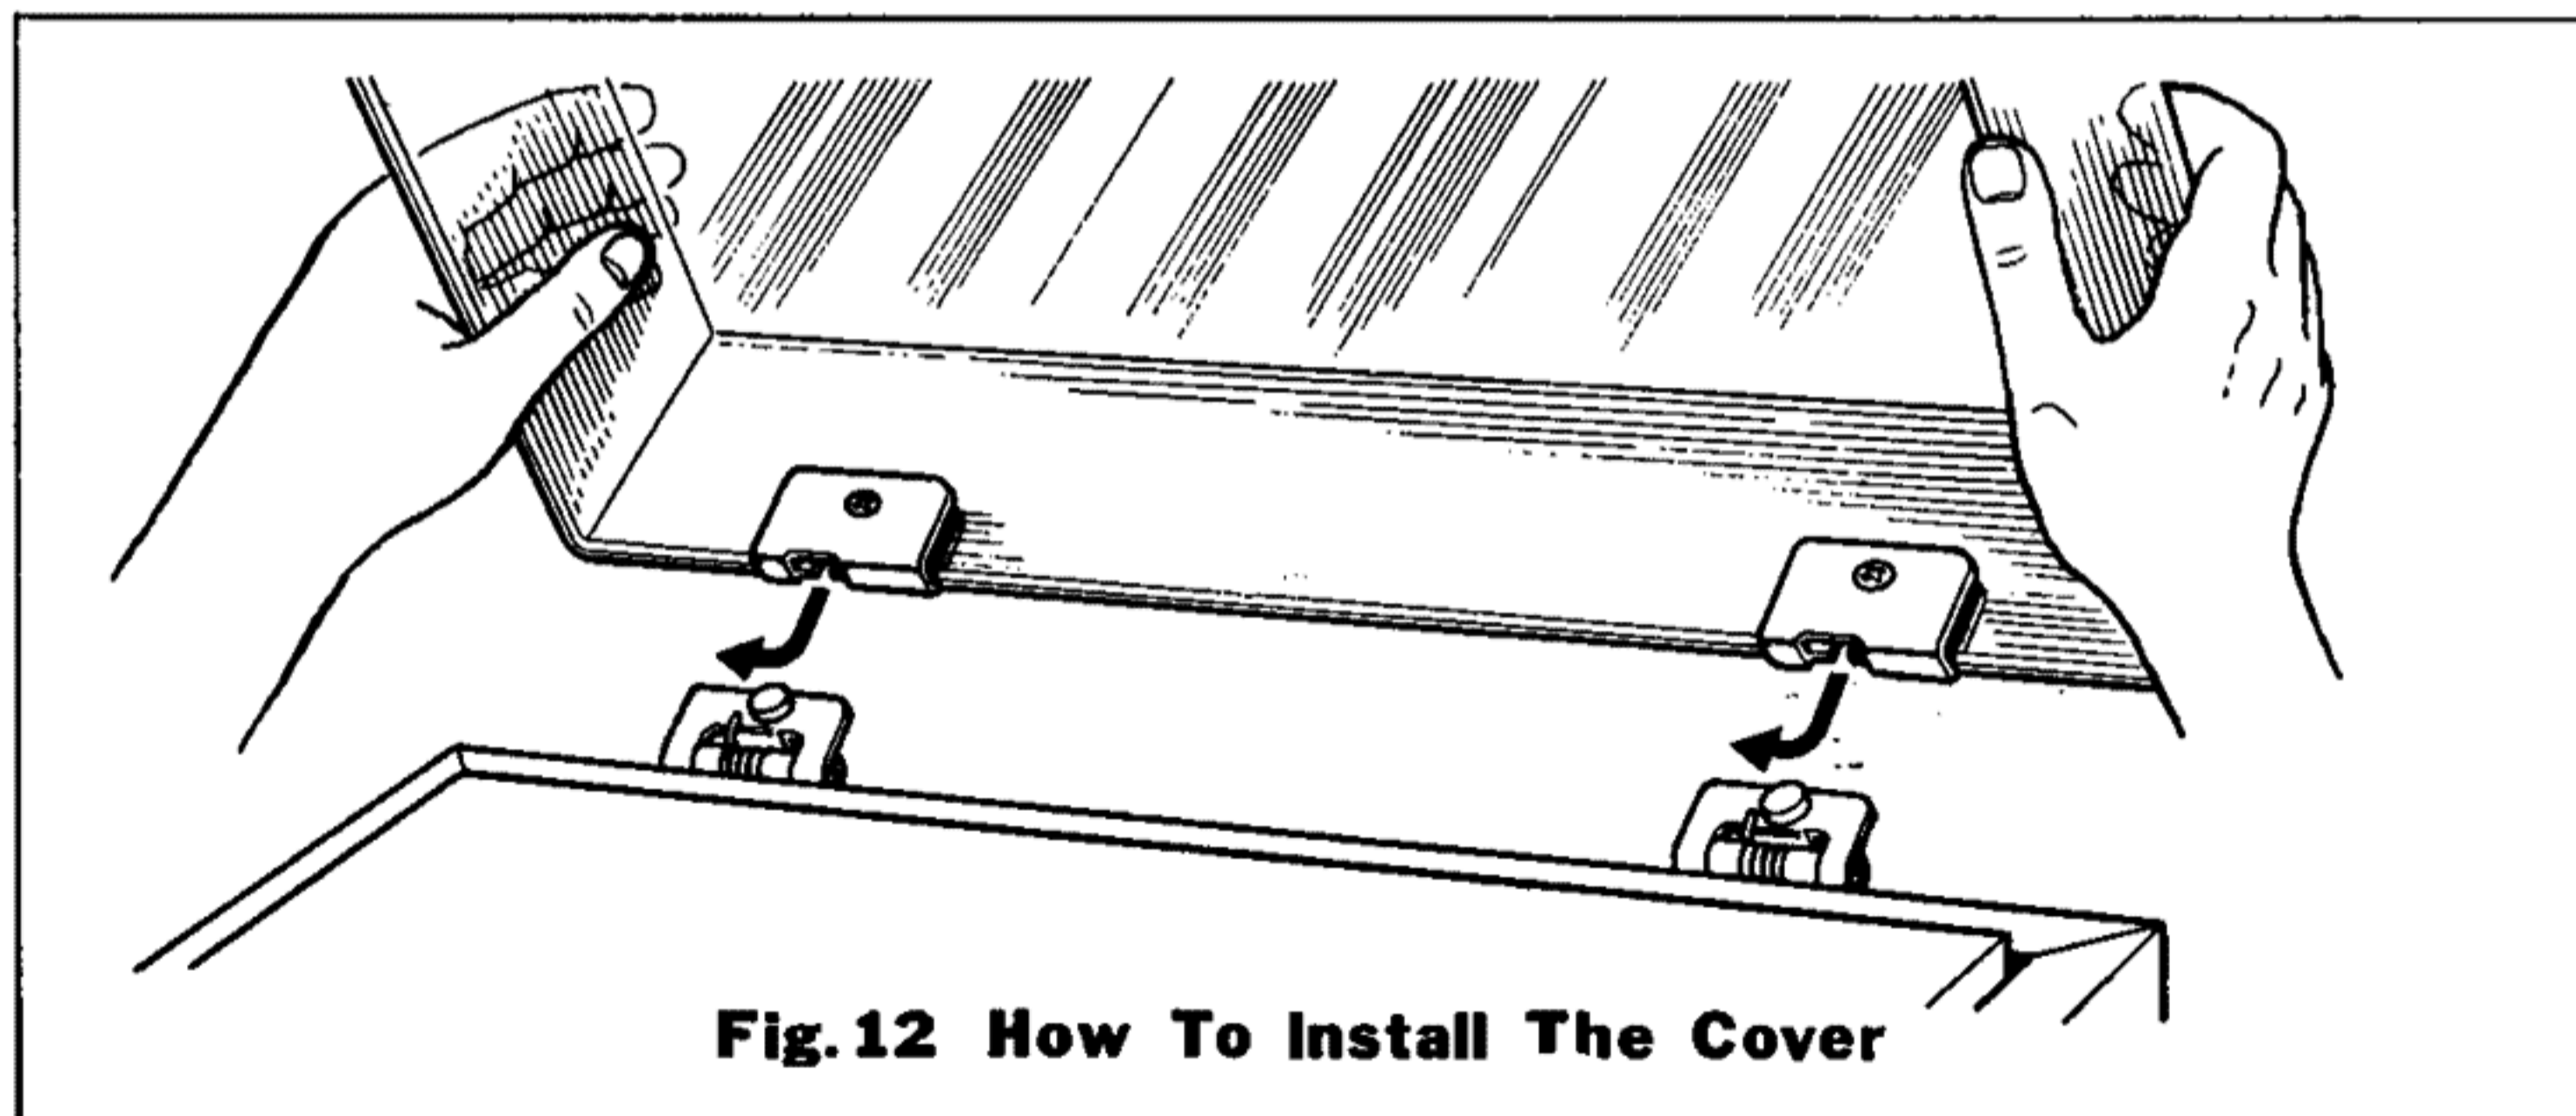

Fig. 12 How To Install The Cover
6. Finally attach the cover to the turntable as shown in Fig. 12. It has been especially designed to be attached or removed easily with a "one-touch" operation.